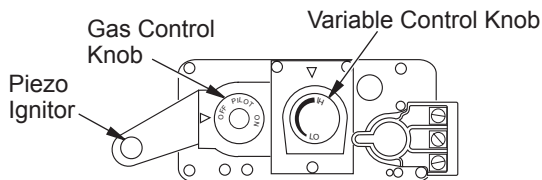

Figure 44 - Control Valve
- Turn gas control knob counterclockwise ↶ to "PILOT". (see Figure 44)
- Push in gas control knob all the way and hold. Immediately light the pilot by repeatedly depressing the piezo spark ignitor until a flame appears. Continue to hold for about one (1) minute after the pilot is lit. Release gas control knob and it will pop back. Pilot should remain lit. If it goes out, repeat steps 5 through 8.